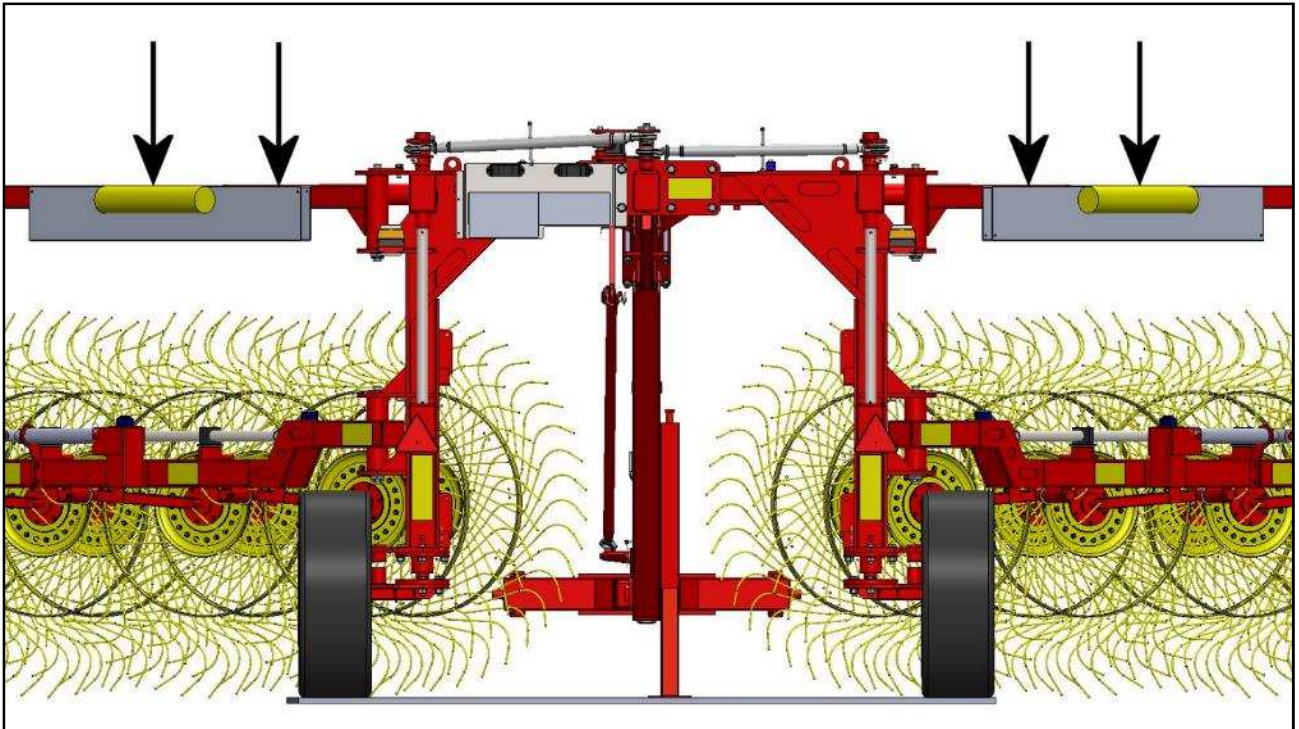

Figure 26
- Remove the protective covers from the front star wheels and store them in their protective housing (see Figure 26).
- Remove the rear protective bar and tie it in its storage place (see Figure 26).